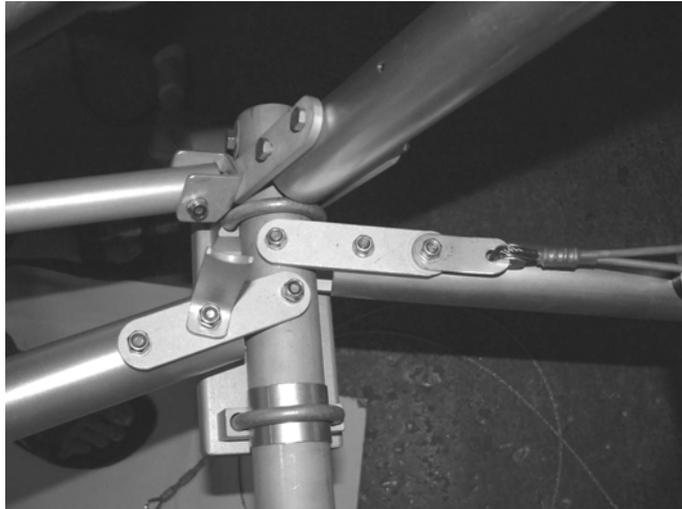
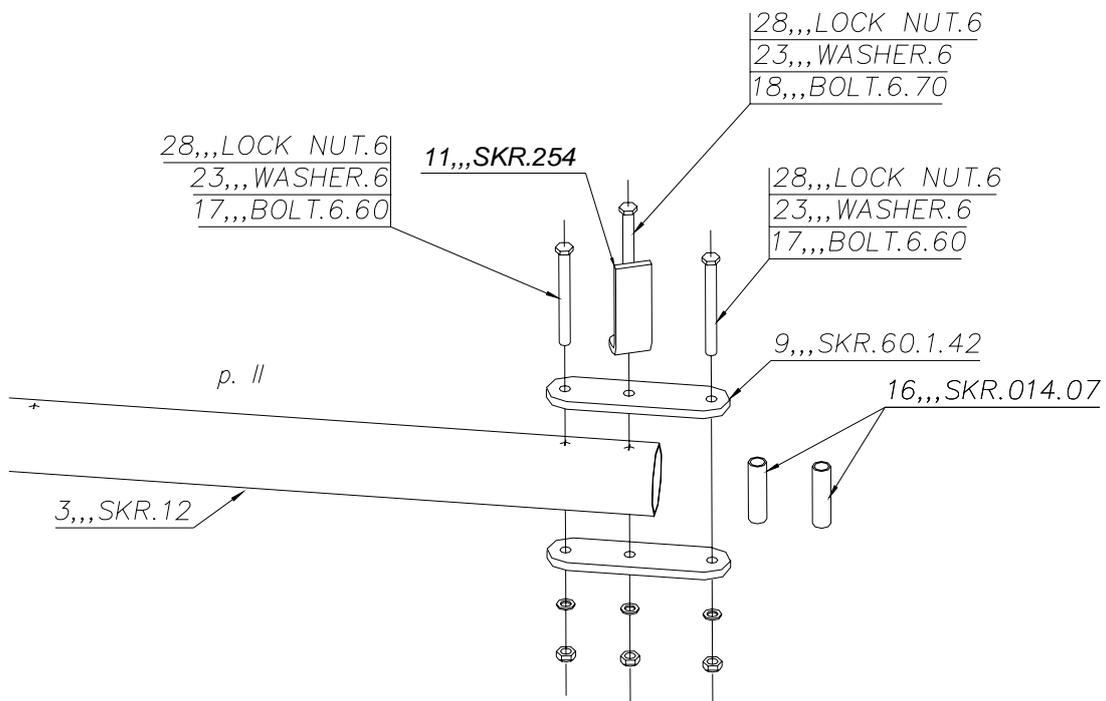
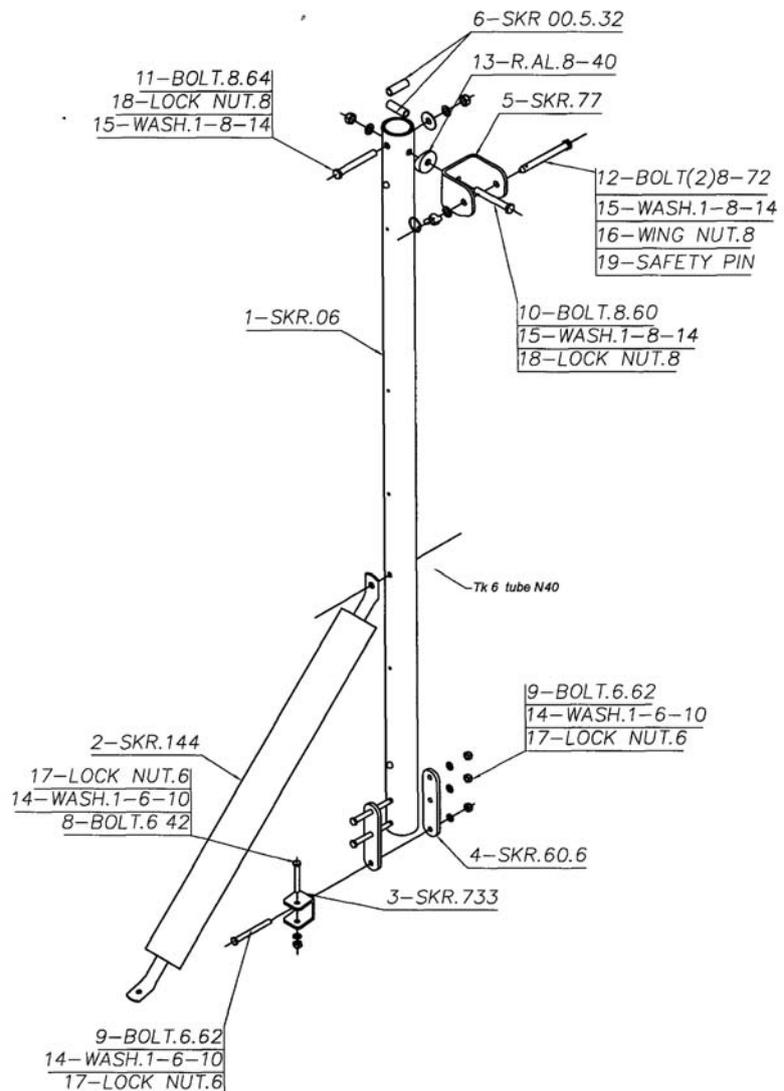

Figure 13; starboard end of tu9, looking from above, front of aircraft to left.
Figure 14; lower cabin triangle, rear of tube tu12.
Figure 25; rear cabin uprights.
Refer to Figure 13. The main undercarriage cross-beam **tu9** is made of steel, and is fitted with a steel inner sleeve (UKMOD).
Refer to Figure 13, Figure 14 and Figure 15.
The middle bolts have the seat support bracket, an L-shaped piece, on their upper ends, with the upstanding part of the bracket in front of the bolt as per Figure 15 rather than Figure 13. A piece of fuel tube may be slit to fit over the support, and secured with silicone sealant, to make a better rest for the seat base later.
Refer to Figure 13, Figure 15, and figure 25.
*UKMOD: the small steel pieces **14** on figure 25 are replaced by canted aluminium U-brackets, and the bolts securing them are longer than the others. Do not tighten these bolts yet, as the brackets will require filing to clear other parts when the undercarriage is fitted.*